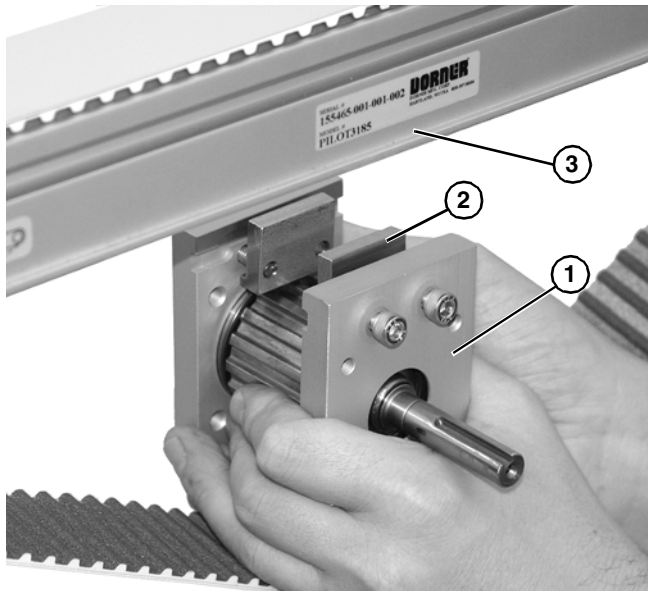

**Figure 72**
6. Install mounting block (Figure 72, item 1) onto spindle (Figure 72, item 2).